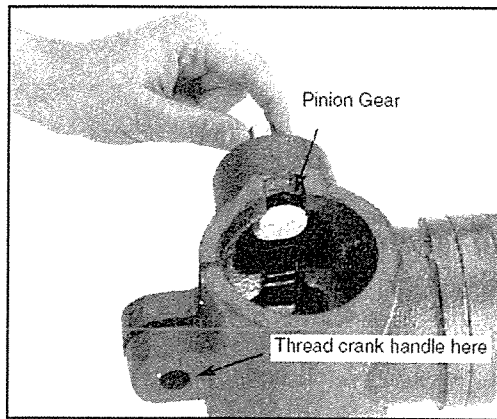

Figure 3
1. Thread the 12mm table lock handle 3 turns into the table support bracket as shown in **Figure 3**.
2. Insert the pinion gear into the hole on the side of the table support bracket from the inside, starting with the pinion shaft as shown in **Figure 3**. Align setscrew in crank handle with flat on pinion gear shaft and secure using the 3mm Allen® wrench provided as shown in **Figure 4**.